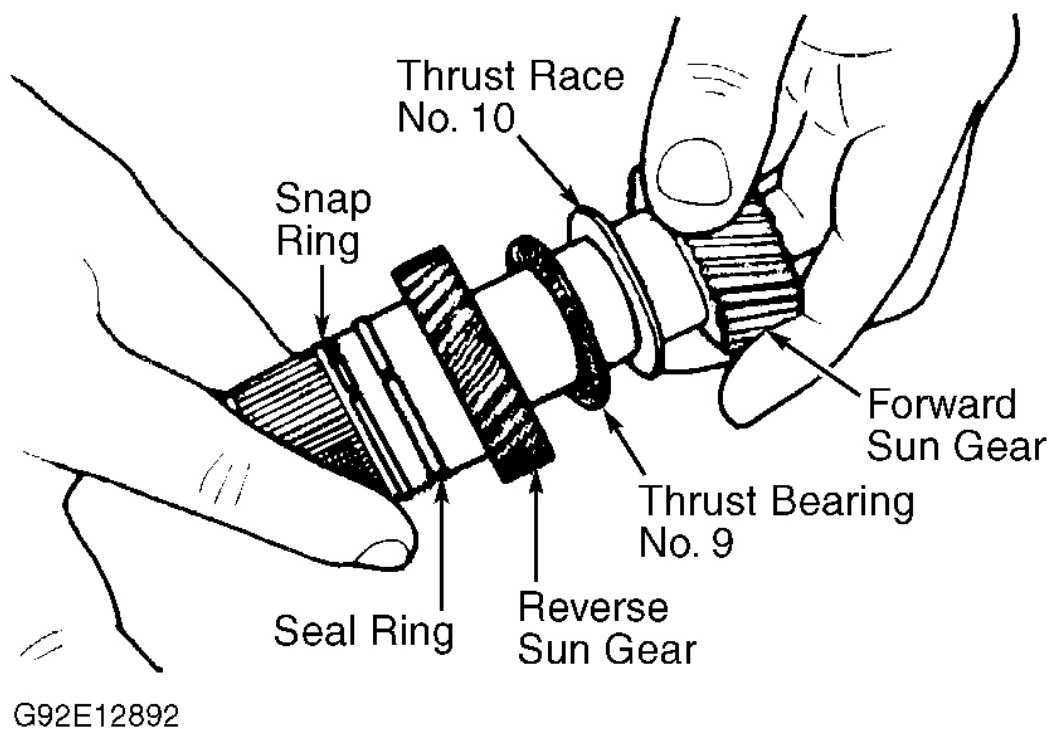
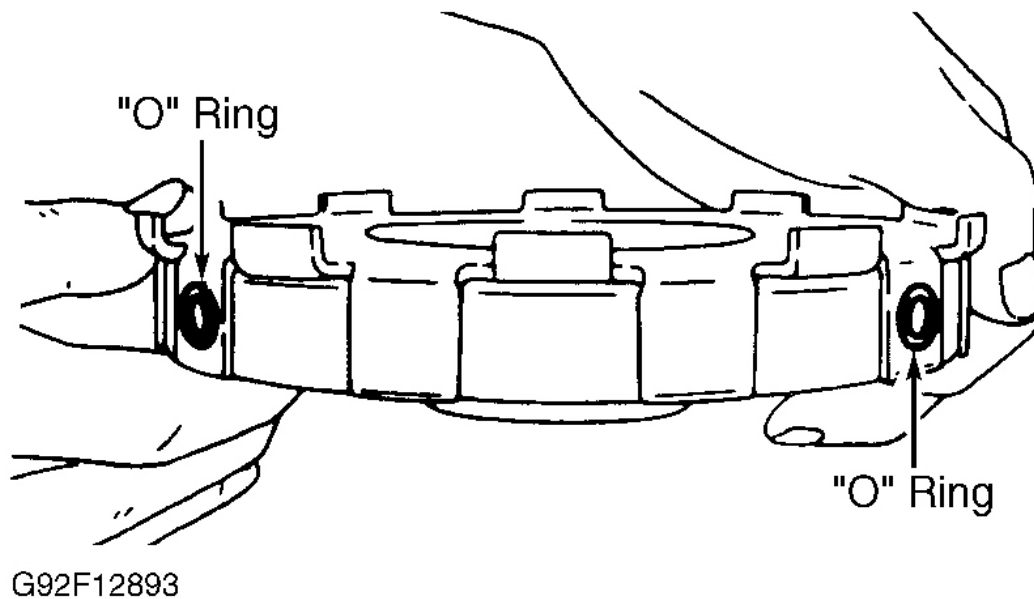

Fig. 37: Assembling Sun Gears
Fig. 38: Positioning "O" Rings On Center Support
10. Install planetary carrier with thrust bearing No. 12 in place, in transaxle case. Assemble reverse sun gear and forward sun gear and install in planetary carrier. See **Fig. 37** . Install low and reverse brake assembly ensuring 2 new "O" rings are properly positioned on center support. See **Fig. 38** .